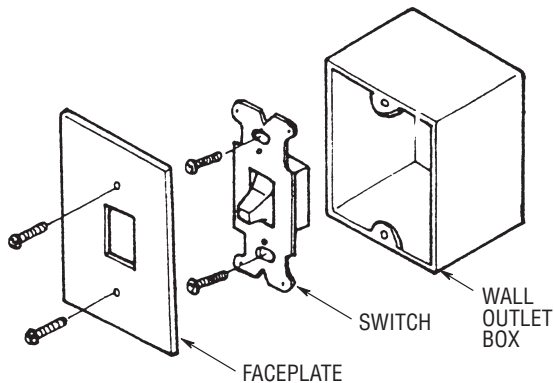

Figure 12
- 8. Disconnect wire from existing fan wall switch (Figure 12).